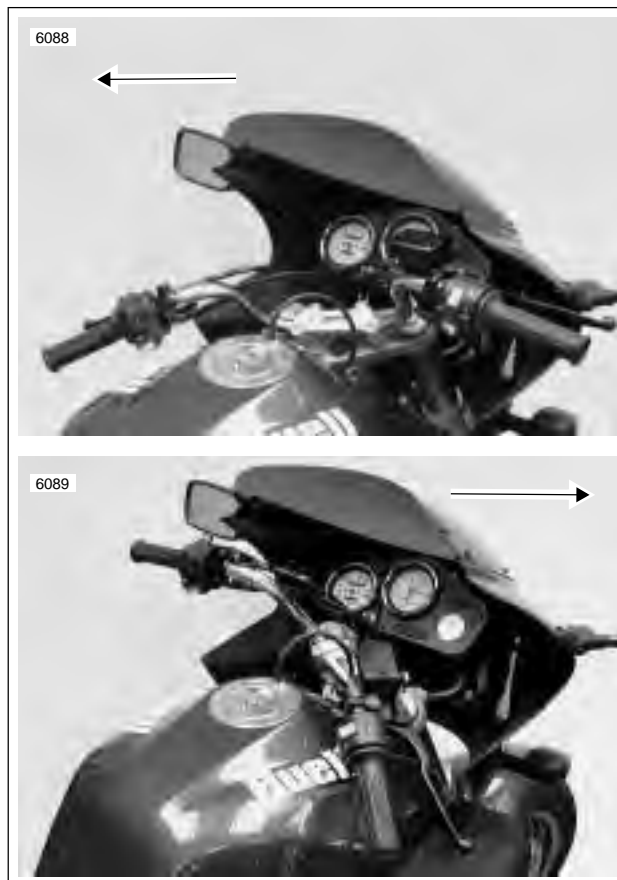

Figure 1-49. Testing Handlebars (Typical)
1. See Figure 1-49. Check steering motion range to both fork stops. Handlebars should not make contact with the front forks, fuel tank or fairing.